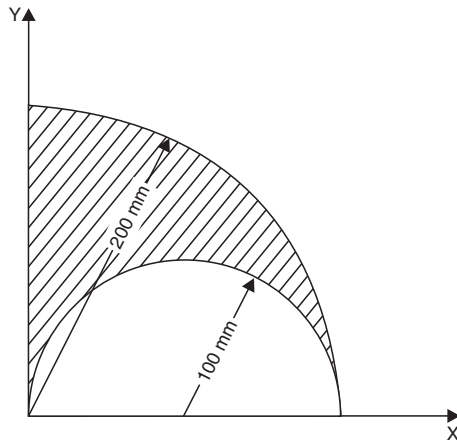

Fig. 4.53
16. Find the co-ordinates of the centroid of the area obtained after removing a semi-circular of radius 100 mm from a quadrant of a circle of radius 200 mm. (See Fig. 4.53). [Ans. 69.8 mm ; 127.2 mm]